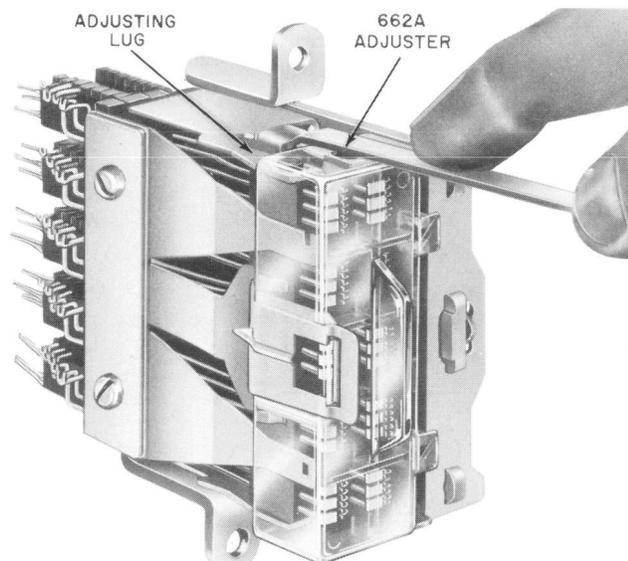

Fig. 6—Method of Adjusting for Contact Make
(1) The molded section on the front portion of the fixed contact springs in each vertical row is held in place by an adjusting lug at the top and bottom of the relay unit. If the contact make or contact separation requirements are not met, reposition the fixed contacts involved by bending to the right or left one or both of the associated adjusting lugs as described below.
(2) **286-Type Relay:** Fig. 6—With the cover on the relay, place the slot at the offset end of the 662A adjuster over the rear narrow portion of the associated adjusting lug nearer the contacts which do not meet the requirements. Draw the adjuster forward as far as possible. Holding the adjuster horizontally, bend the adjusting lug slightly to the left to increase the contact separation or to the right to decrease the separation. If the contacts being repositioned are in the middle third of the relay, bend both top and bottom adjusting lugs as described above. If the contacts are in the upper or lower thirds, bending the nearer adjusting lug only may be sufficient. However, take care in making the adjustments that the separation of all contacts is kept approximately the same, bending both lugs slightly if necessary.
(3) 287- and 288-Type, D-179985 and D-180441